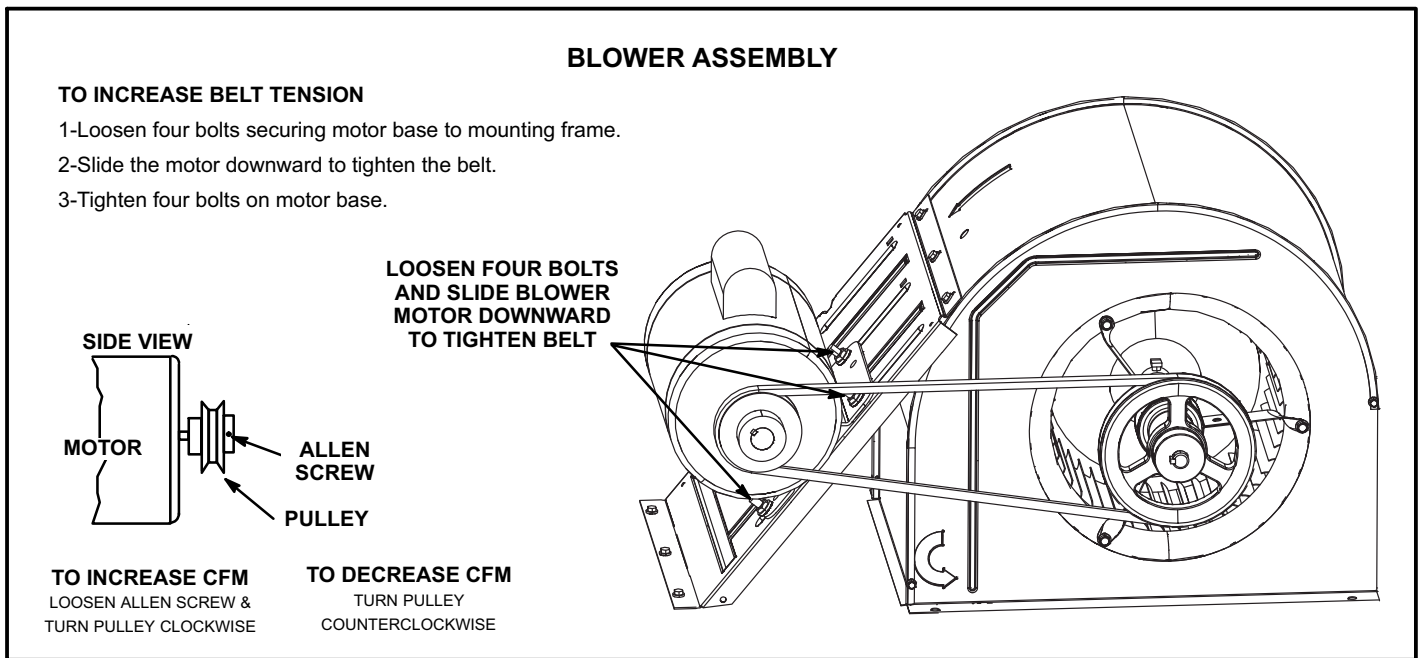

FIGURE 7
- 4- The blower RPM can be adjusted at the motor pulley. Loosen Allen screw and turn adjustable pulley clockwise to increase CFM. Turn counterclockwise to decrease CFM. See figure 7. Do not exceed minimum and maximum number of pulley turns as shown in table 2.
- 1- Loosen four bolts securing motor base to mounting frame. See figure 7.